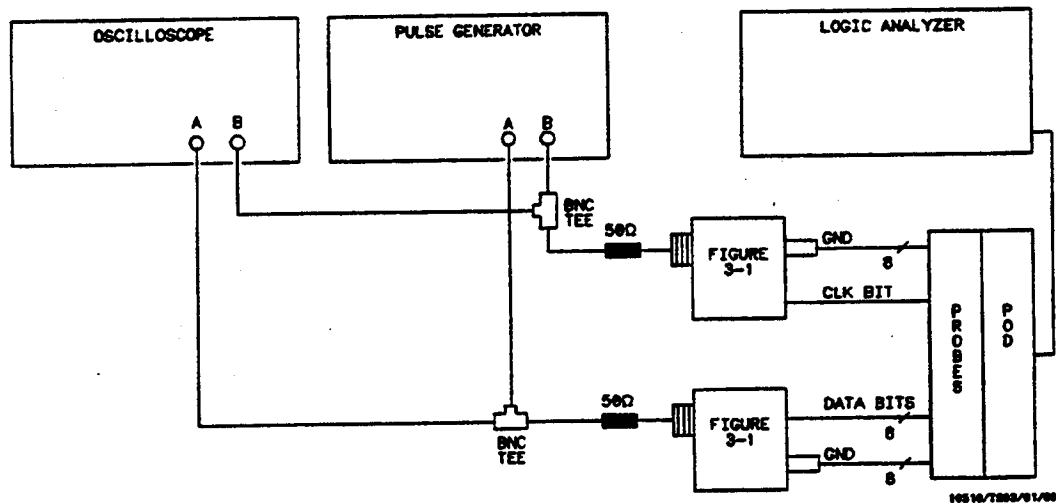

Figure 3-2. Equipment Setup For Test 1
1. Connect the HP 16510B and test equipment as shown in figure 3-2.